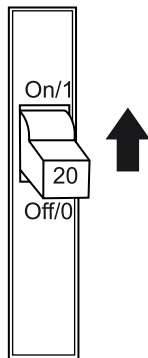

Figure 74. GFCI Circuit Breaker
2. Place a **GFCI circuit breaker** (Figure 74) in the **ON** position.